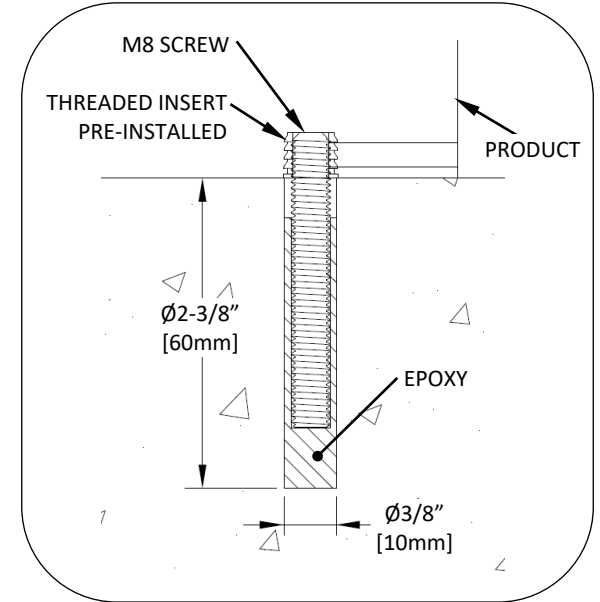

Fig. 3 - embedded anchor detail
1. Thread M8 set screws into threaded inserts in bottom of unit. See Fig. 3.